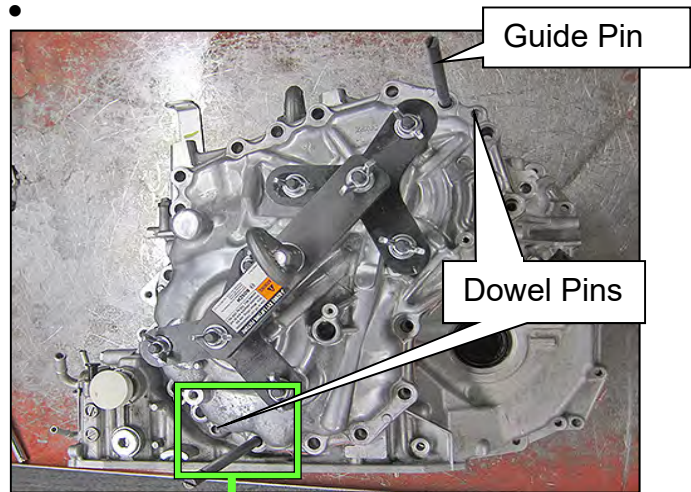
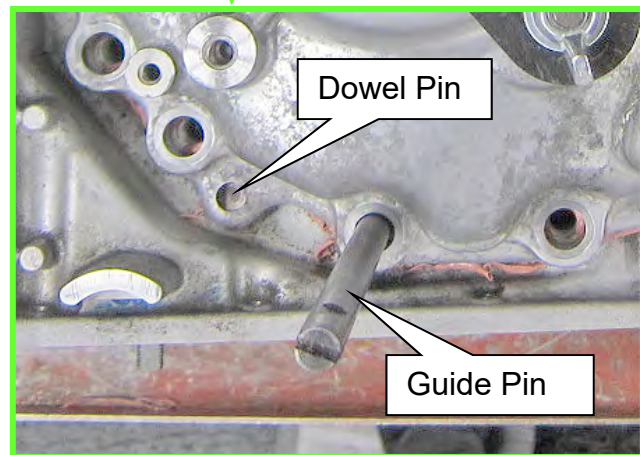

Figure 78
Figure 79
57. Install the two CVT Assembly Guide Pins (J-51959 - Guide Pins) as shown in Figure 78 and Figure 79.